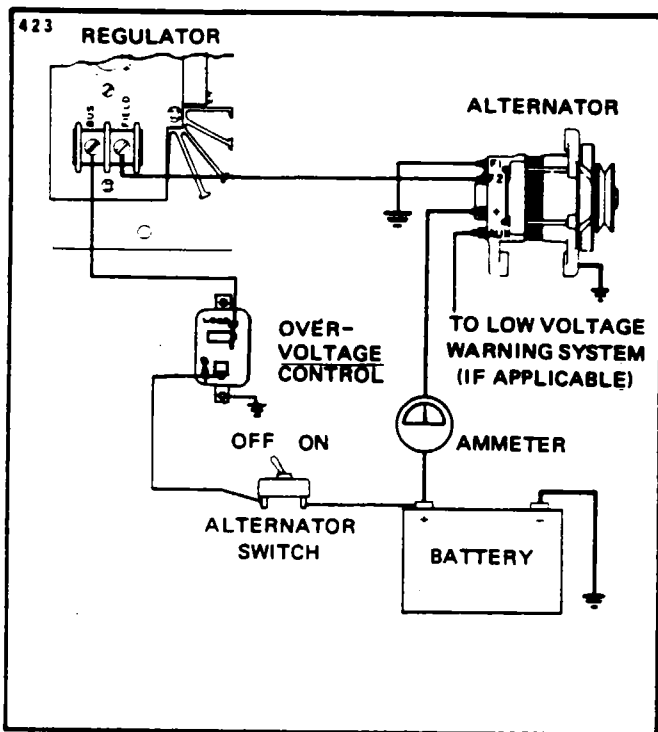

Figure 11-21. Application of Overvoltage Control
- c. The relay contacts will remain open until the alternator switch is turned off. Figure 11-21 illustrates the overvoltage control connected in a typical Prestolite insulated field alternator.